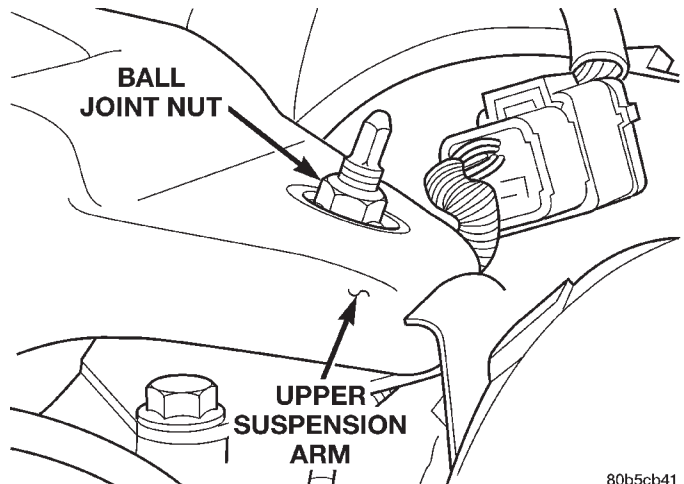

Fig. 8 Ball Joint Nut
- (4) Remove the ball joint nut from the top of the upper suspension arm (Fig. 8).